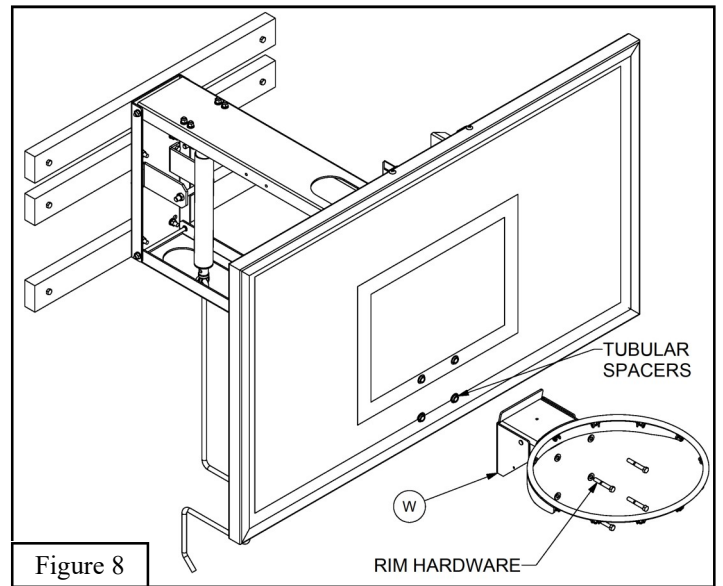

Figure 8
11. Install the *Rim (W)* with the hardware provided with the *Rim (W)*. Make sure that the tubular spacers are installed in the 4 holes in the glass to keep the rear of the *Rim (W)* from contacting the glass. Tighten all rim mounting bolts when the rim is level. See Figure 8.